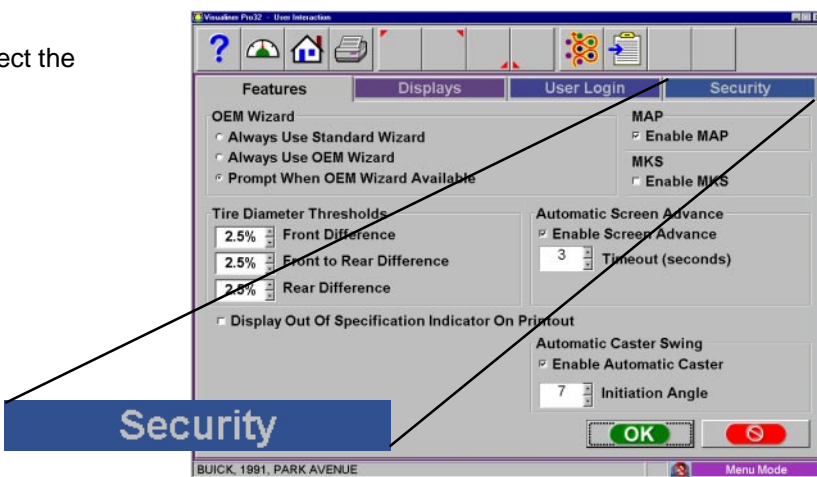

Figure 3-30
3. From the User Interaction menu select the **<SECURITY>** tab. (Figure 3-30)